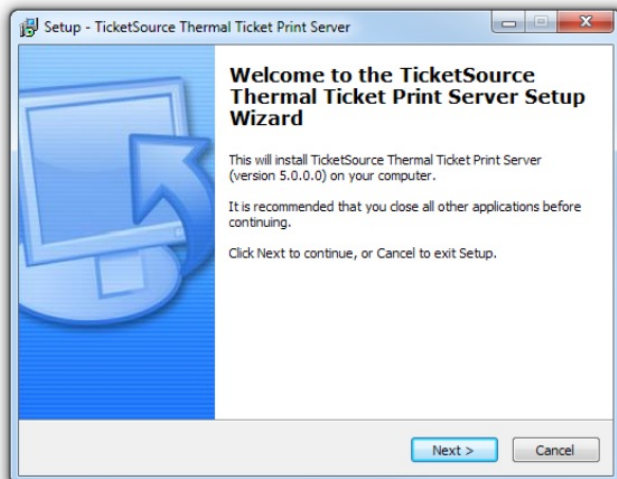

Figure 6: TicketSource Thermal Ticket Print Server installer
- after downloading the TicketSource thermal ticket print server installer (setup\_printServer.exe), locate the file on your computer and double-click it to start the installation (figure 6),